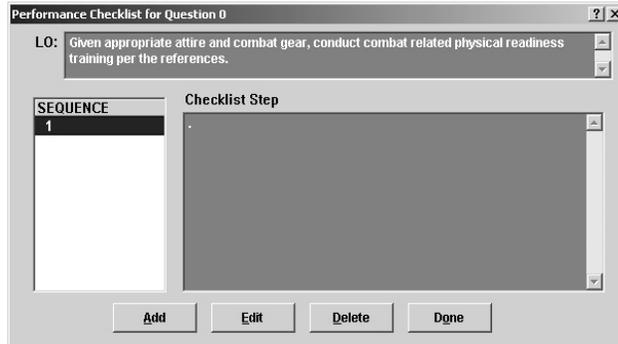

Figure 6-68. Add Performance Checklist Item
- (c) If you wish to edit an existing checklist item, highlight the desired item and click on **Edit**. A dialog box (similar to Figure 6-68) opens for you to edit the item or resequence it.